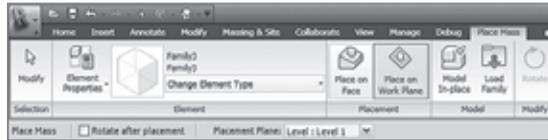

Figure 14.26
10. Click the Load into Project button on the Ribbon to load the box into the project. You will be put into component placement mode, in the default plan view. Note that your cursor will display as a banned symbol, indicating that you cannot place the component. This is because the placement mode is looking for a face to place your massing box onto. Not a problem — change the placement method to Place on Work Plane in the Placement panel on the Ribbon — this will allow you to place the mass family on Level 1 (or any level in your project using the Placement Plane drop-down list on the Options bar). See Figure 14.26.